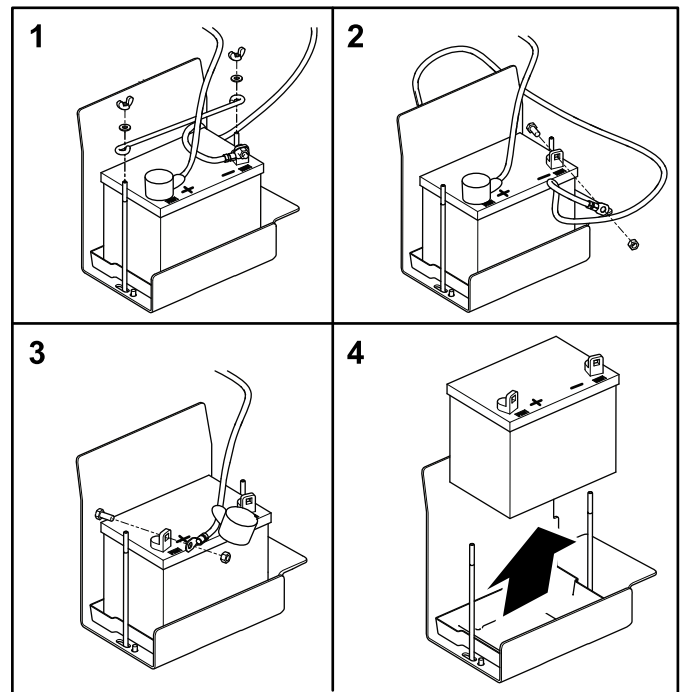

Figure 53
- Remove the wing nuts and washers securing the battery hold-down (Figure 53).